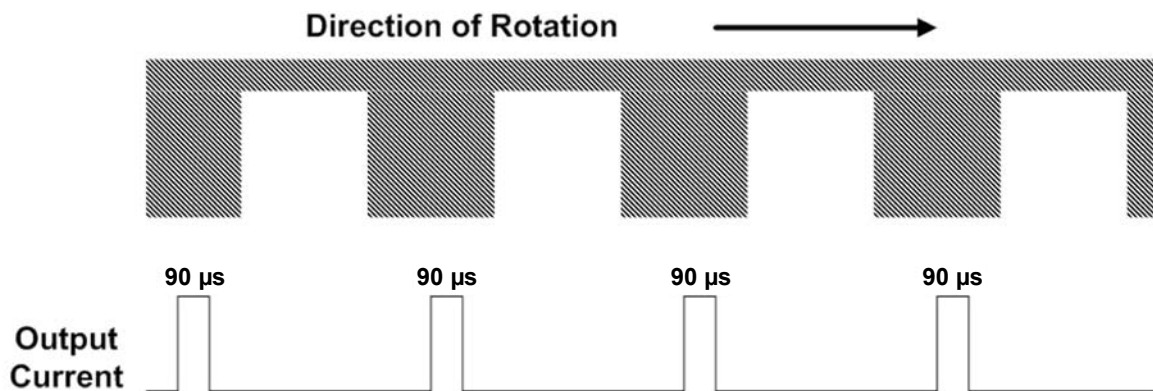

Figure 2. Target rotation to the left (CCW) relative to the sensor gives reverse speed.
**Rotation Left.** Referring to figure 2, when the target changes direction, the sensor outputs a current pulse of or 90  $\mu\text{s}$ , twice as long as the Rotation Right pulse width. The maximum speed is limited by the width of the pulse and the shortest Low-State Duration the controller can resolve.